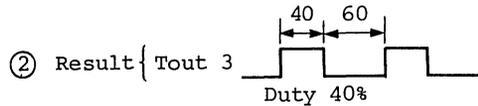

Figure 3-6. Example of DUOUT Execution
- b. Example of DUOUT execution is shown in figure 3-6. If entry arguments are as shown in part ① of figure 3-6, duty rate 40% pulse is output as shown in part ② of figure 3-6.